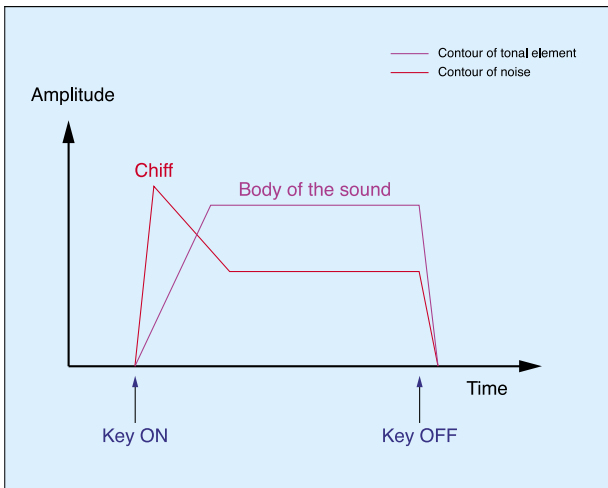

Figure 15: The contours for the noise signal and the pitched signal.
► Attack-Decay-Sustain-Release) envelopes, inserting a tiny delay before the onset of the Attack phase. Unfortunately, few synths have these envelopes, but we can get away with a simple ADSR if the Attack value is carefully chosen. Figure 15, below, shows how the two contours combine the wave and the noise into the composite sound.